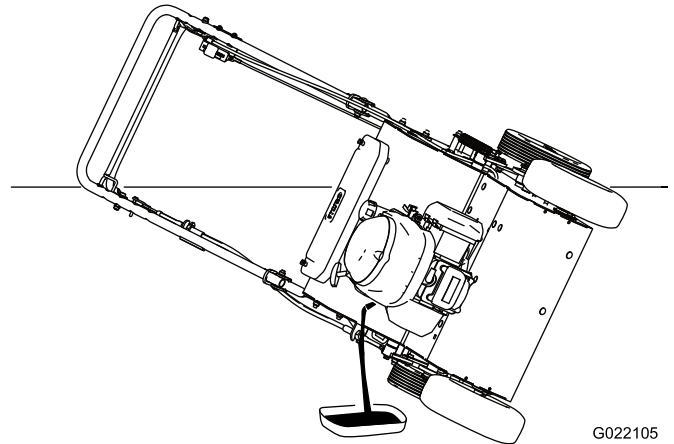

Figure 28
6. Tip the machine to the side, with the air filter up, to drain the used oil out through the oil-fill tube (Figure 28).